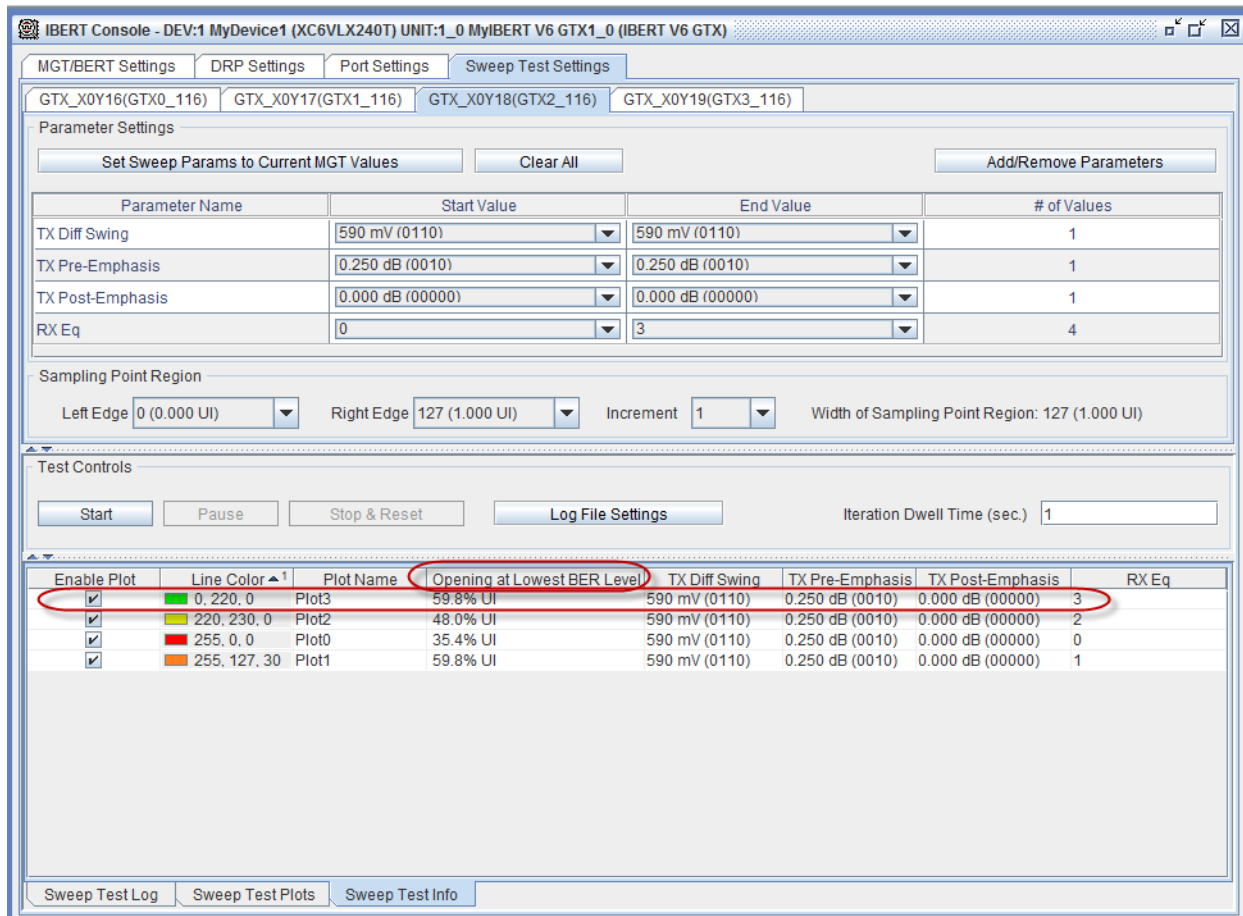

Figure 11: Sweep Test Info Tab Display
2. Click the **Sweep Test Info** tab, shown in Figure 11, and find the widest eye opening and/or highest margin.